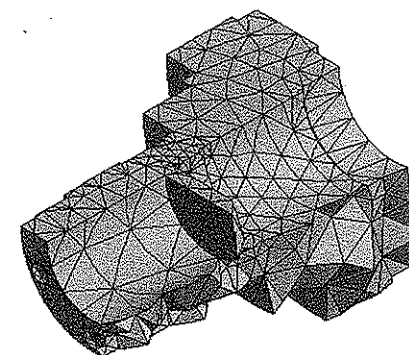

Figure 7-88 Volume cells created on the mesh with default settings
4. Choose the **Show Whole Elements** button from the **Section Planes** window to visualize the volume cells, as shown in Figure 7-88.